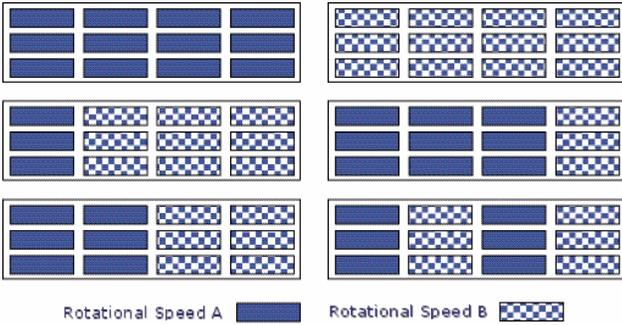
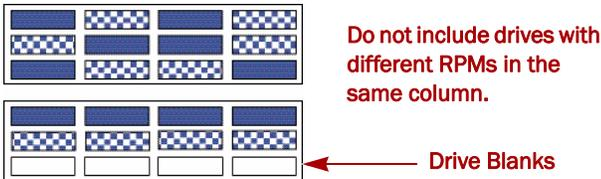

Figure 11. Supported Drive Configurations
Figure 12. Unsupported Drive Configurations
- Drives of different rotational speed (such as, SAS and SATA drives) can be installed in the same expansion array (Figure 11), but they should not be installed in the same column or be separated from each other by a column of different rotational speed drives (Figure 12 on page 4). If you are combining drives with different rotational speeds, use the figures below to plan where to place the disk drives.